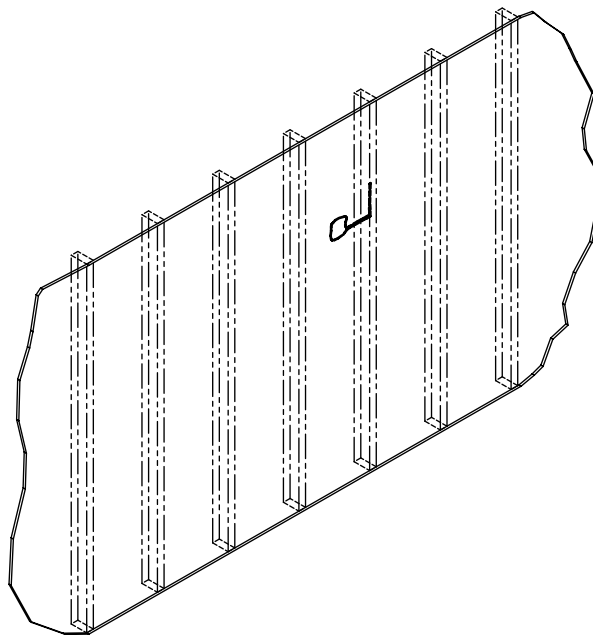

fig. 3
3. Taking care not to damage the loudspeaker cable, cut the drywall to the closest stud/joist. Continue cutting parallel along the stud/joist to form a 90 degree reference line of approximately 8" ( 20.3 cm.). (please see fig. 3)